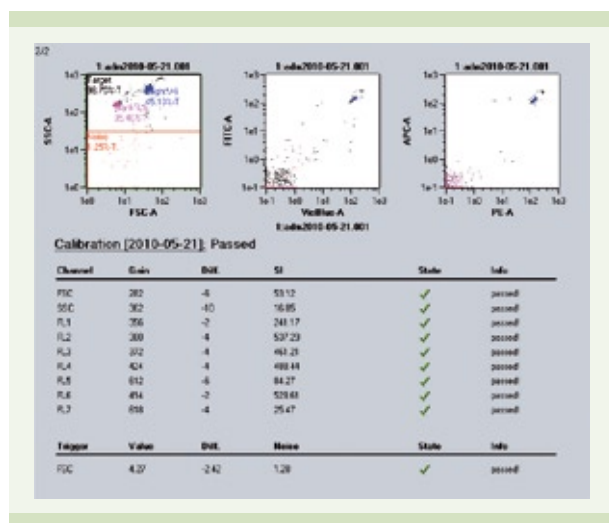

Figure 1: Calibration analysis template report
8. Upon completion, an analysis template will indicate that the calibration has passed. Voltage gain, staining index, and fluorescence histogram plots (figure 1) are displayed.